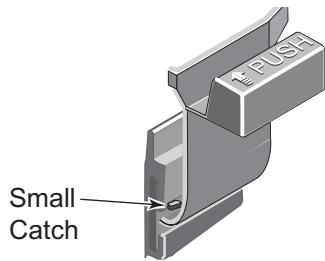

Figure 7 – Safety Latch
SAFETY LATCH (See Figure 7)
1. Press down on the small catch behind the safety latch and press or tap the latch out of the "Tee" slot in the tank (see Figure 7).